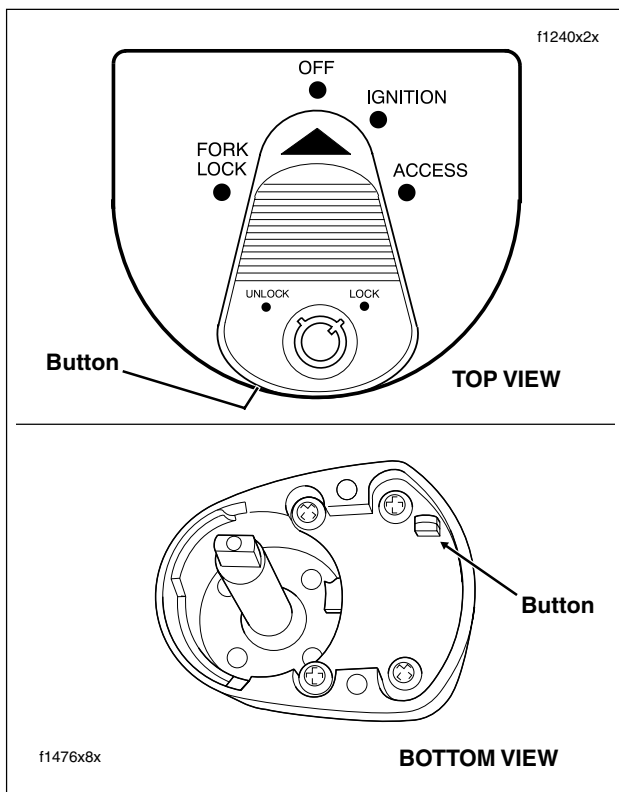

Figure 8-61. Ignition Switch Knob Release Button
2. To remove the ignition switch knob, insert the Ignition Switch key and turn to the UNLOCK position. Leaving the key installed, rotate the knob to ACCESS. Depressing the release button at bottom (left side) with a small screwdriver, push key down and turn an additional 60 degrees in a counter-clockwise direction. Lift and remove knob. See Figure 8-61.